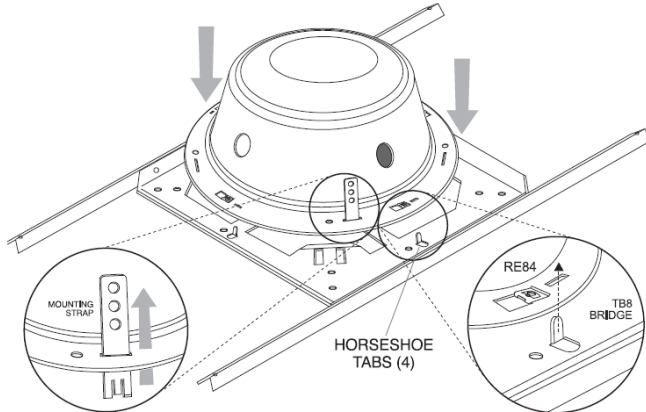

Figure 1
2. If using the optional RE84 Recessed Enclosure, bend up the four horseshoe tabs (Figure 1) on the TB8.